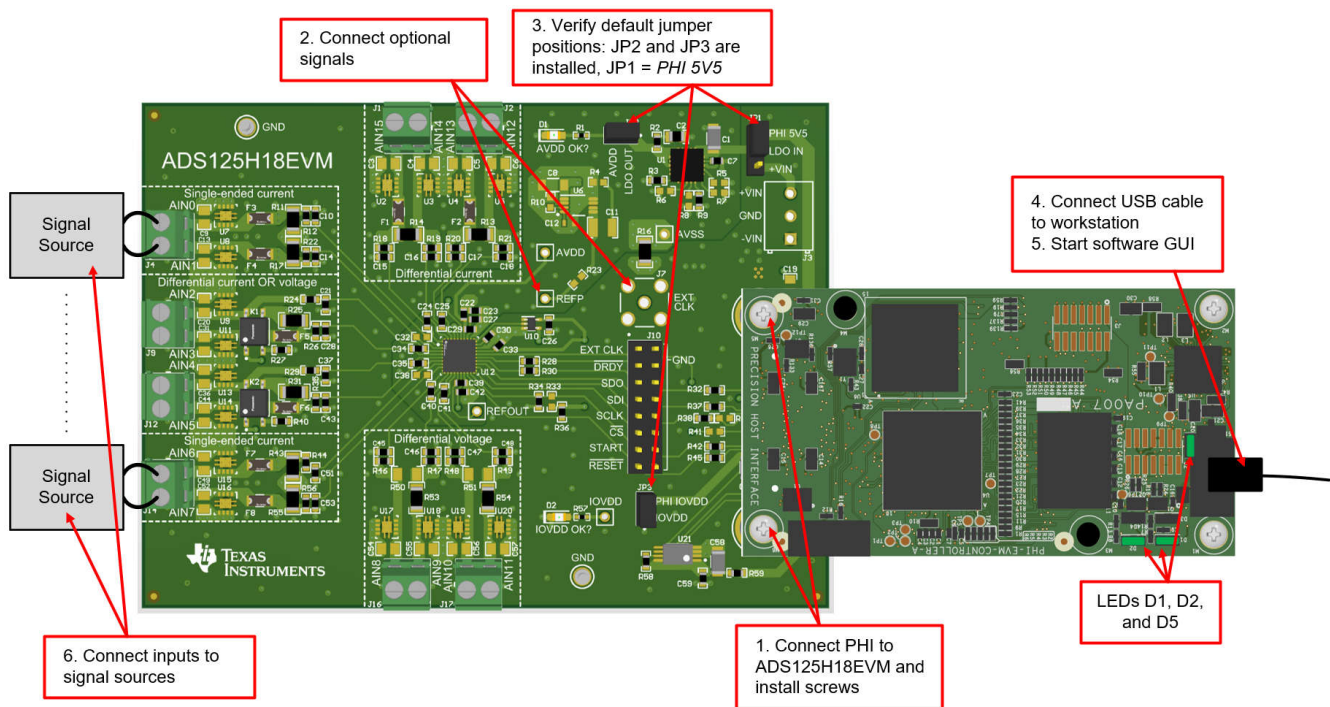

Figure 4-1. Connecting the Hardware to the ADS125H18 EVM
Connect the EVM as shown in Figure 4-1 after installing the software
- b. LEDs D1 and D2 on the PHI start blinking to indicate that the PHI is booted up and communicating with the PC; Figure 4-1 shows the resulting LED indicators